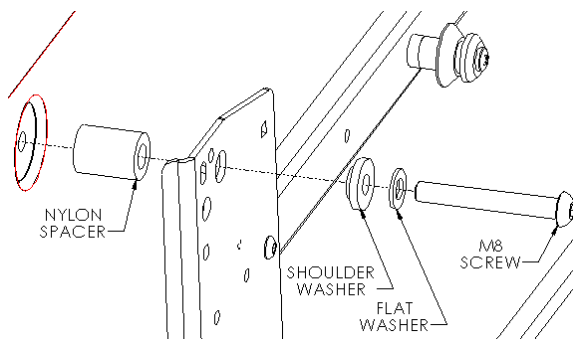
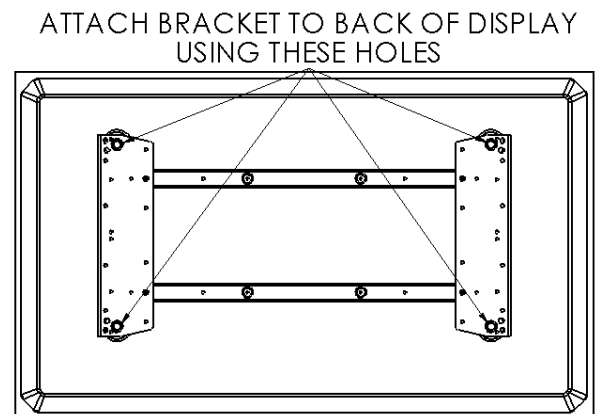

Figure 8
Figure 9
5. **Bracket Installation:** Place nylon spacers over mounting holes on back of screen. Attach mounting brackets to display using the M8 screws, shoulder and steel washers (see Figure 8 & Figure 9). Do not over tighten screws.